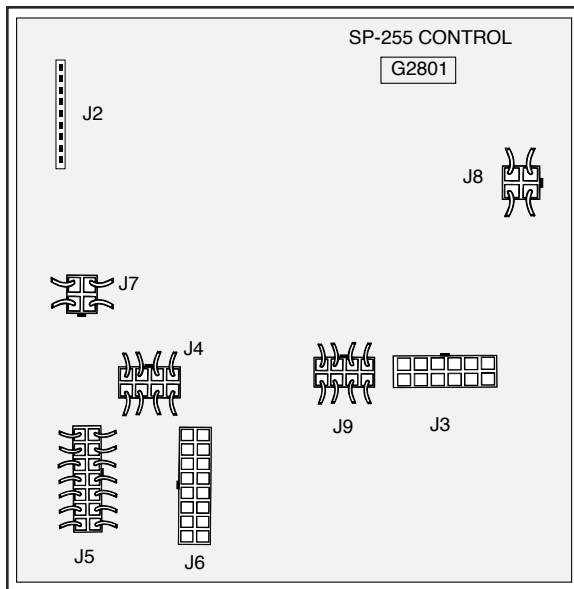

FIGURE F.5 - Control Board Molex Plug Locations for G2801 PC Control Board.
2. Disconnect Molex Plugs J3 and J6 from the G2801 Control Board. See Figure F.5.